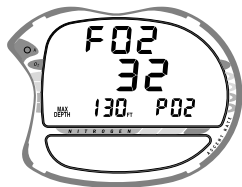

Fig. 19 - FO2 = 32%
- For each FO2 value that appears, the lower portion of the display indicates the Maximum Depth that can be achieved for a PO2 of 1.60 ATA (Fig. 19). If FO2 is set for Air, depth is not displayed.